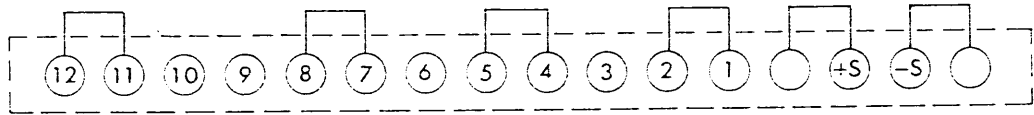

Figure 2-1
- o Make sure that the jumpers of the terminal blocks on the rear panel are securely connected as shown in Figure 2-1 (when in the standard operation).